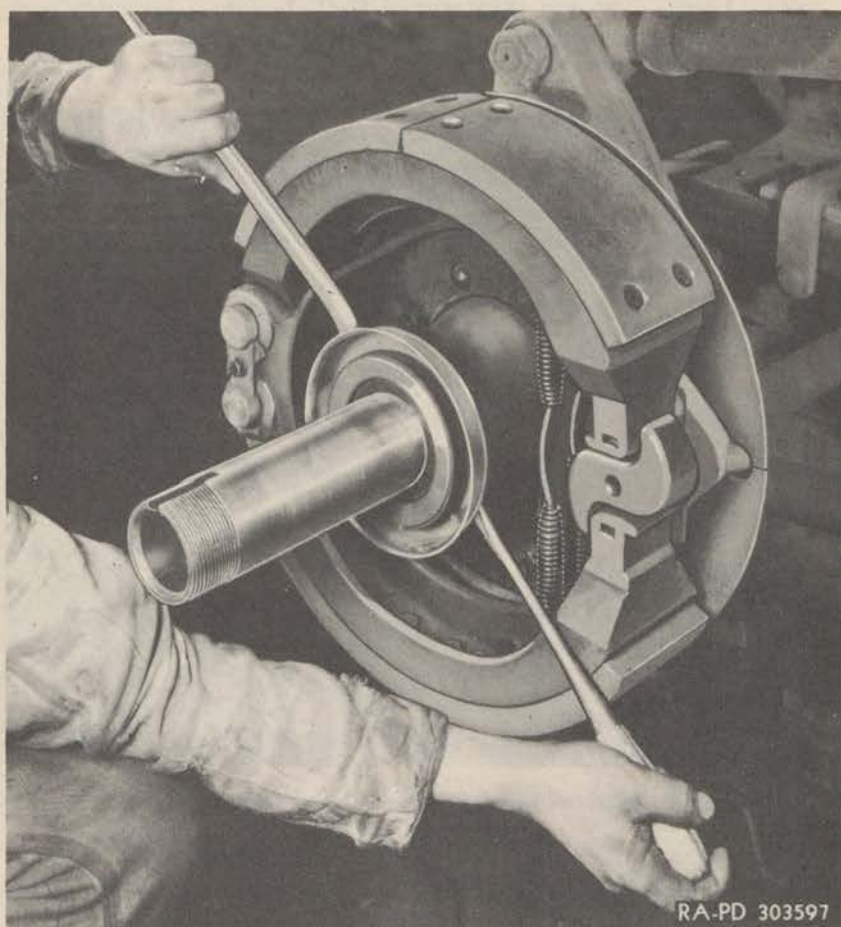

Figure 143—Prying Off Rear Wheel Bearing Grease Retainer
(2) **REMOVE GREASE RETAINER SEAL.** Using two screwdrivers, pry the felt retainer ring away from the felt. Then remove two washers and the felt ring (fig. 143).